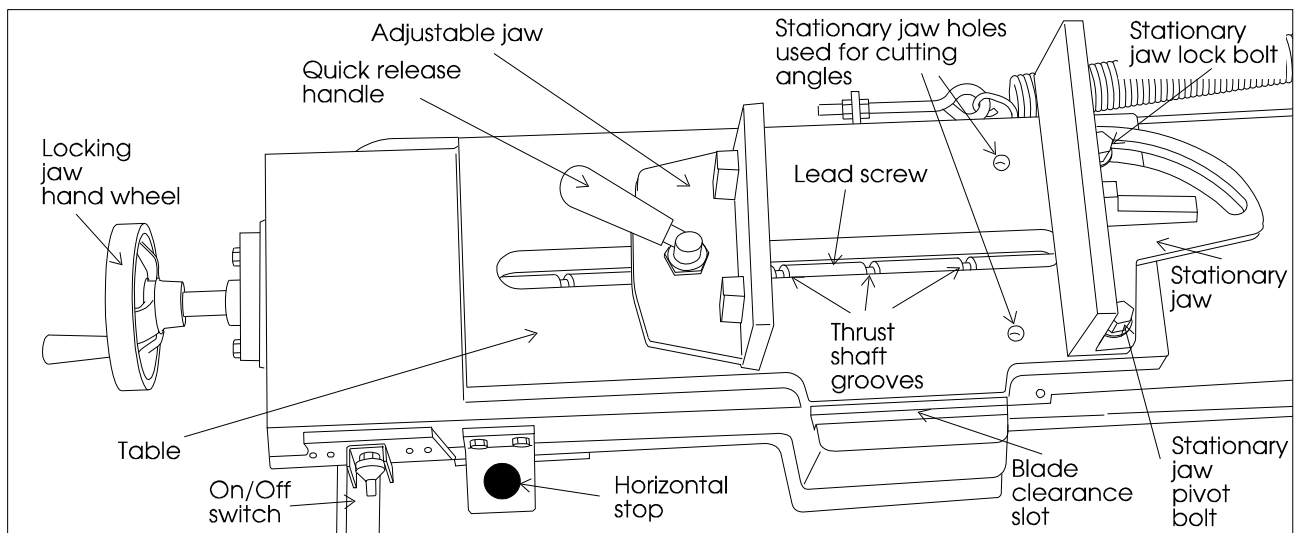

Figure 1: Vise jaw nomenclature
When you slide the jaw to a new position, you can see where the nearest lead screw groove is by looking through the slot above the lead screw. (See *Figure 1*.)
The stationary vise jaw pivots on the pivot bolt, *Figure 1*, and is locked at any required angle by the lock bolt.
3. If the vise jaw is not square to the blade, loosen both the pivot and lock bolts shown in *Figure 1*, and adjust the jaw until it is square.
3. Loosen the pivot and lock bolts shown in *Figure 1*.